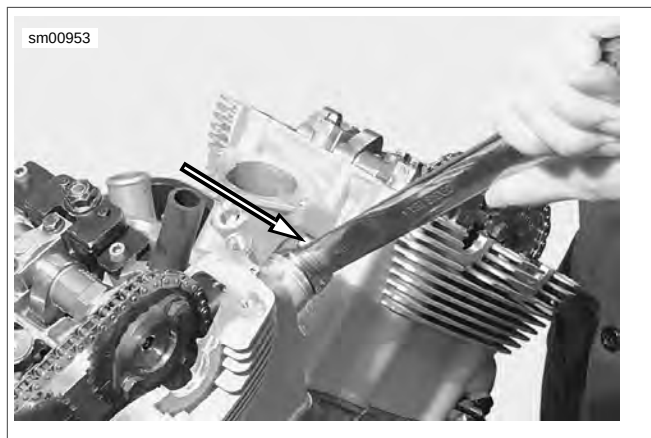

Figure 3-21. Remove Secondary Cam Chain Tensioner (typical)
19. See Figure 3-21. Remove secondary cam chain tensioner.